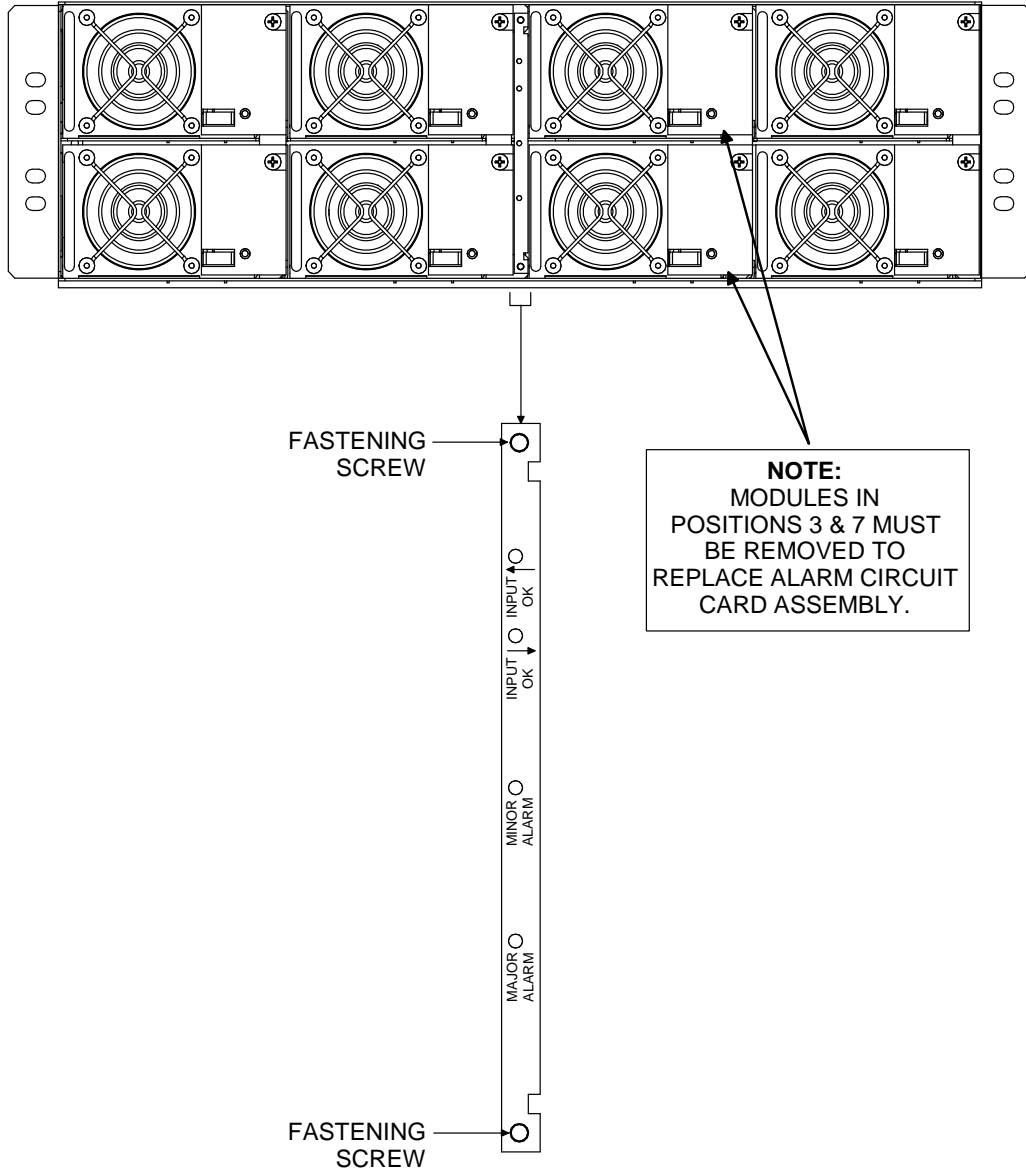

Figure 7
Refer to Figures 7 and 8 as this procedure is performed.
- 1) Remove the Converter Modules or Blank Modules, whichever are present, from Mounting Positions 3 and 7. Refer to Figure 7. To remove a Converter Module:
- 2) Remove two screws that secure the alarm circuit card assembly to the converter shelf. Refer to Figure 7.